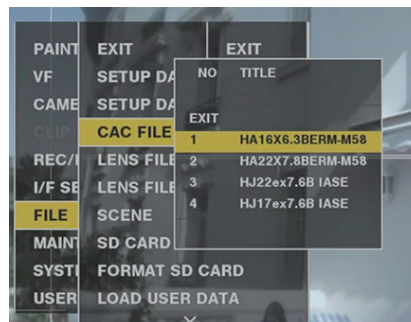

Fig. 2
- Select the file number to load, and press the jog dial button (or <SET> button). (Fig. 2)